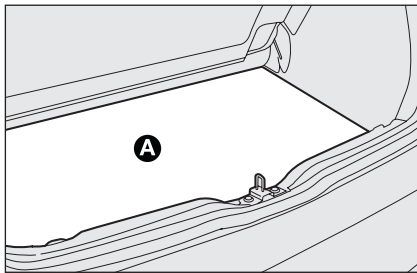

fig. 2
- lift the luggage compartment mat **A**-fig. 2;